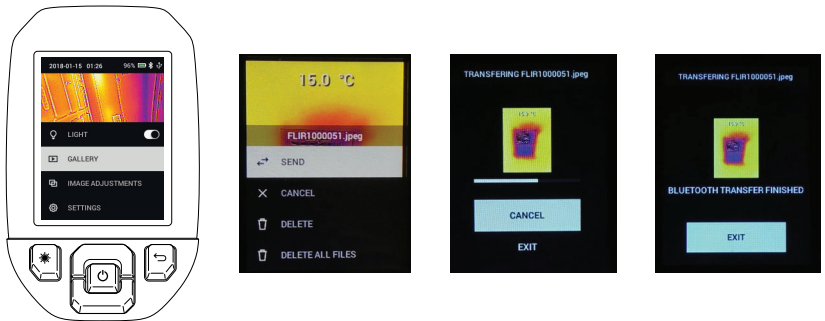

Figure 7.2 Sending Images to a Mobile Device
1. Open the TG275 Image Gallery from the main menu and scroll to an image using the arrow keys. See Figures 7.2 and 7.3, below, for illustrations supporting this section.